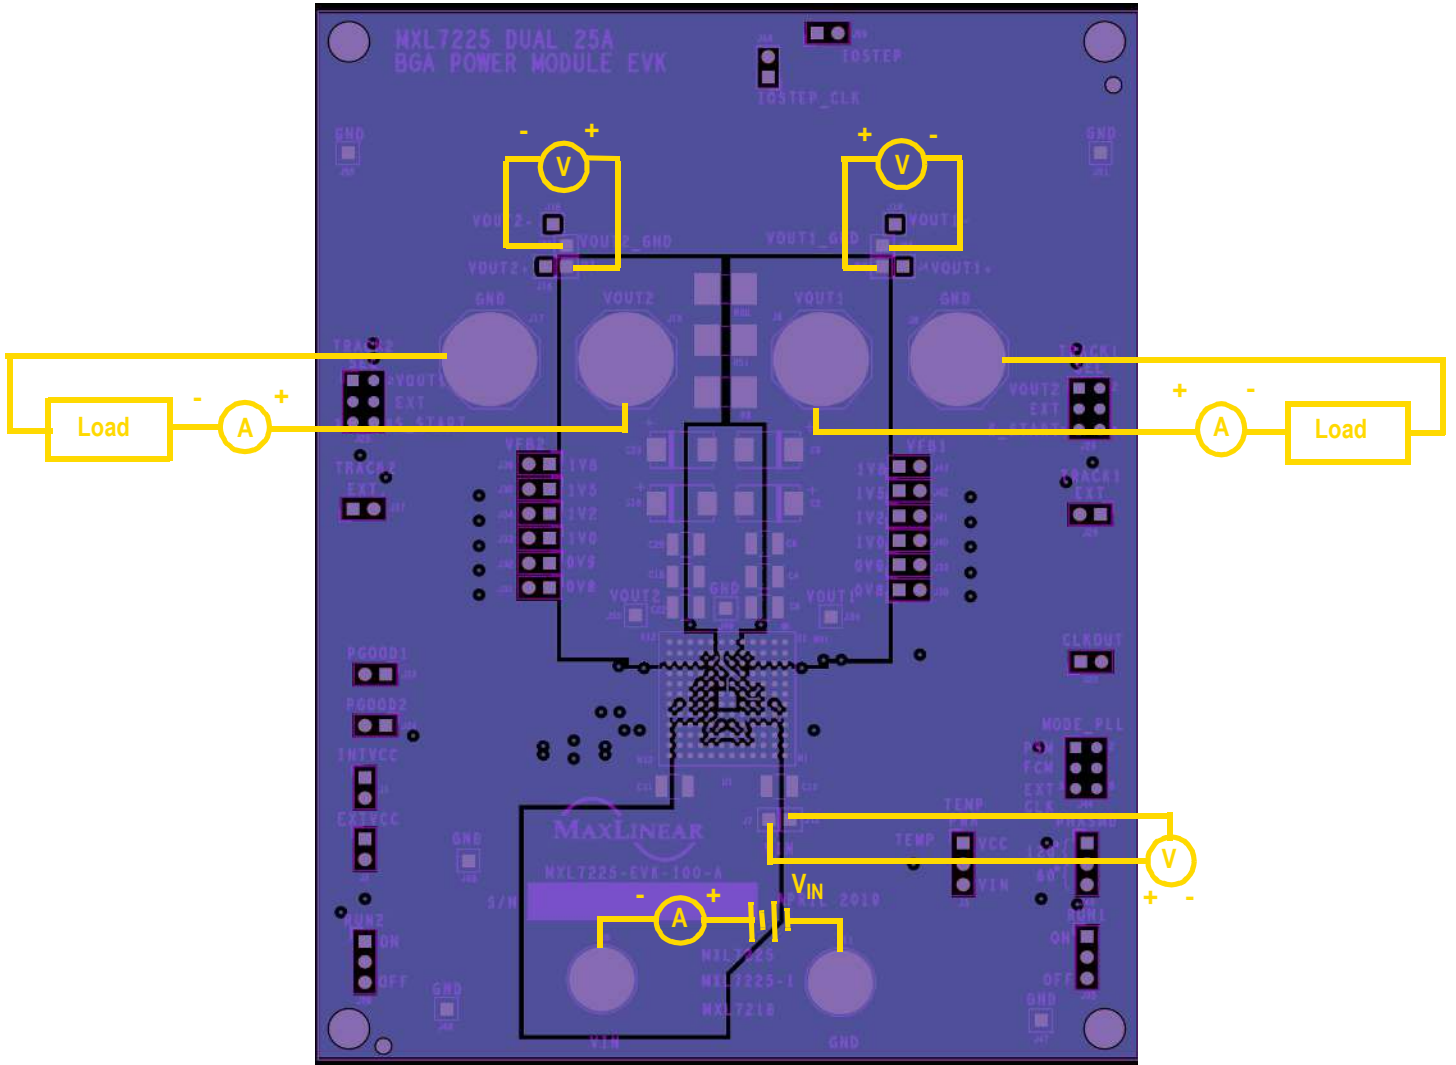

Figure 1: Monitoring V_{IN} and V_{OUT}
2. Connect a turned-off power supply that is within a V_{IN} specification of 4.5V to 15V, (12V typical) to VIN and GND with short, thick leads. Use test pins VIN+ and VIN- to monitor VIN and GND respectively. See locations in Figure 1.
3. For the channel 1 output, connect an electronic load initially set to 0A, that will be no more than the above maximum I_{OUT} (25A), to VOUT1 and GND with short / thick leads. Use test pins VOUT1 (J52) and VOUT1_GND (J60) to monitor VOUT1 and GND respectively. See locations in Figure 1.
4. For the channel 2 output, connect an electronic load initially set to 0A, that will be no more than the above maximum I_{OUT} (25A), to VOUT2 and GND with short, thick leads. Use test pins VOUT2 (J53) and VOUT2_GND (J61) to monitor VOUT2 and GND respectively. See locations in Figure 1.